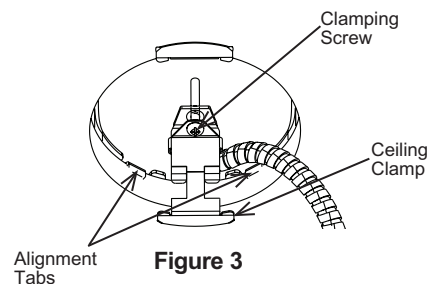

Figure 3
**Step 4.** Align frame over opening so that 4 tabs center the fixture in the hole (Fig. 3).